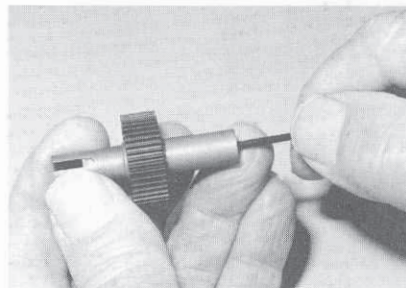

Fig. 52
2) Tighten the bolt using the Allen wrench, making sure that the hubs and drive rings stay centered. 3) Once you have lightly snugged the two halves together you can turn the diff assembly on its side to make the final adjustment easier. Fig. 52. Hold the left outdrive and tighten the diff spring and the screw until it stops. **DO NOT OVERTIGHTEN.** Correct adjustment is tightening the spring and diff bolt until they stop, then backing the bolt off 1/8 of a turn.